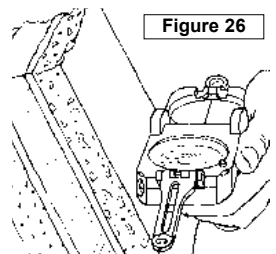

Figure 26
2. Place transit along a horizontal line on the inclined rock surface. (Fig 26)